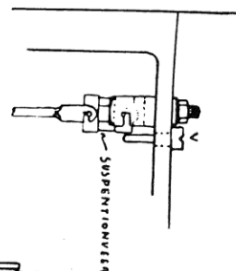

FIG. 6
2. Check the condition of the suspension spring by removing the movement cage and pendulum. One of the two fine springs in the suspension may be bent or broken, which can still allow the clock to run but cause irregular timekeeping. To replace it, unscrew the screw (V) and release the upper pin of the suspension bracket (Figure 6).